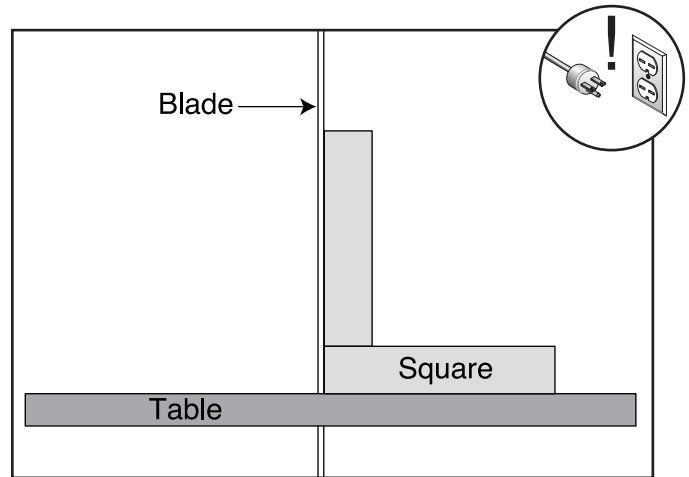

Figure 27. Squaring table to blade.
5. Raise the upper blade guide assembly and place a 6" machinist's square or try-square on the table next to the side of the blade as illustrated in **Figure 27**. Adjust the positive stop bolt to raise or lower the table until the table is 90° to the blade.